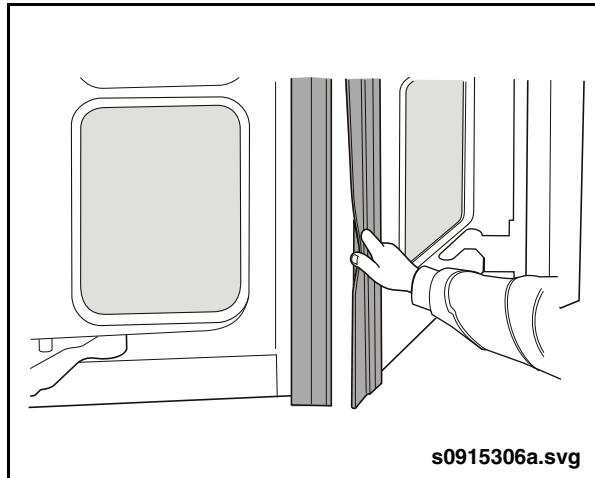

Fig. 16-26: Pinch Test
4. Standing outside the vehicle and while the doors are closing, firmly pinch the sensitive edge seal on the left hand door panel. The doors should reopen. See “Fig. 16-26: Pinch Test” on page 44.